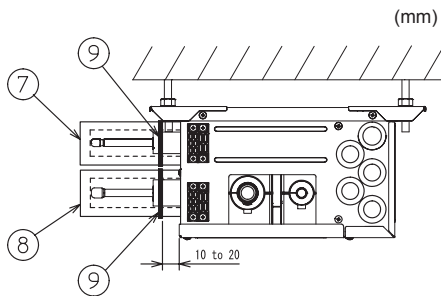

Fig. 7-7
- (8) Apply the supplied bands (9) at a position 10 - 20 mm from each end of the pipe covers (3, 4, 5, 6). (Fig. 7-7)
- (9) If the indoor unit is not connected, fit the supplied pipe covers (with caps, 7 and 8) to the branch box refrigerant piping connections against the unit to prevent condensation dripping from the pipes. (Fig. 7-7)
- (10) Clamp the pipe covers (7, 8) in place with the supplied bands (9). (Fig. 7-7)